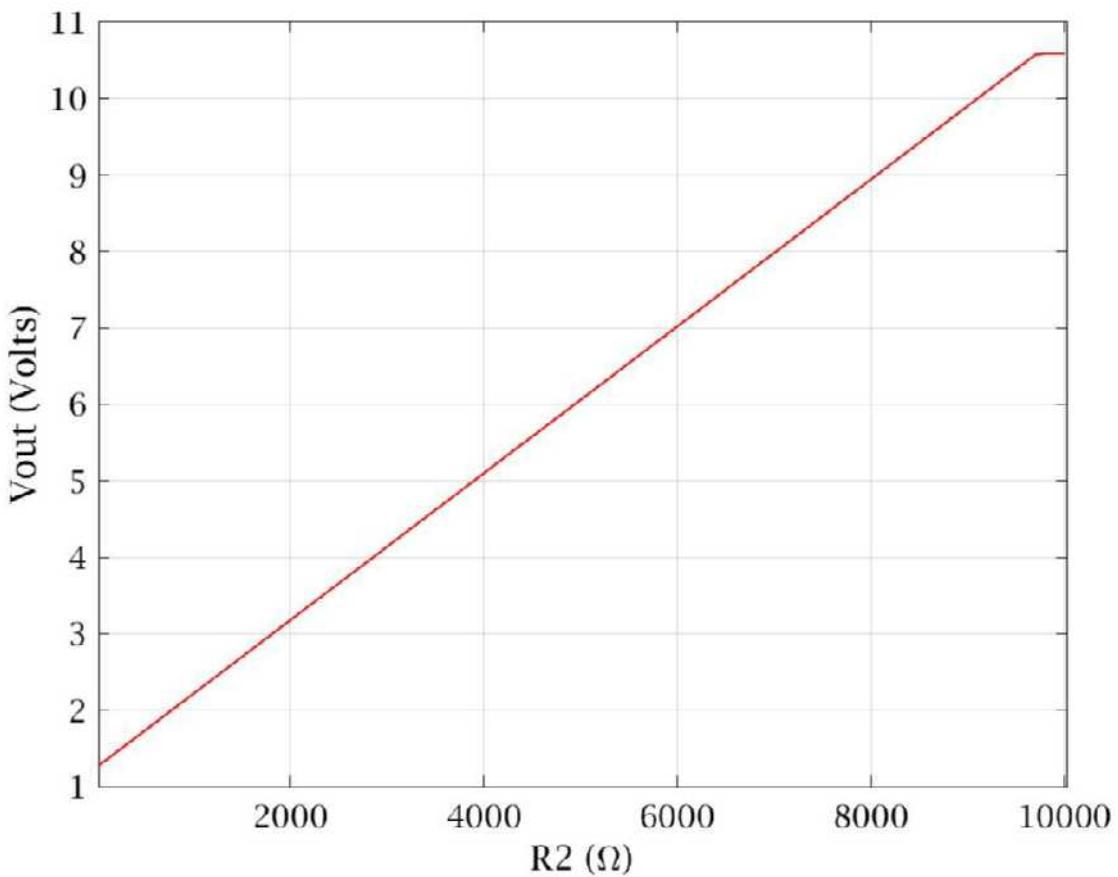

Figure 6. Output voltage vs. value of R_2 modeled with measured and optimized R_1 .
5. Figure 6: The first schematic diagram is often the simplest circuit to use (test) the IC, and it's followed by what we might call the characteristic equation that describes the circuit's operation, both copied in Fig. 3:
Design an LM317 power supply with $R2 = 10k$ pot, and find the value of an optimal $R1$ such that the slope intersects with V_{max} just before the maximum of $R2$ (as in Fig. 6). You could do this by algebraically manipulating the characteristic equation (in Fig. 3), but perhaps a much easier approach is trial and error. Iteratively tweak the value of $R1$ above and rerun the simulation (click the "Run" button in the Live Editor top taskbar) until you get close to the desired result (Fig. 6).